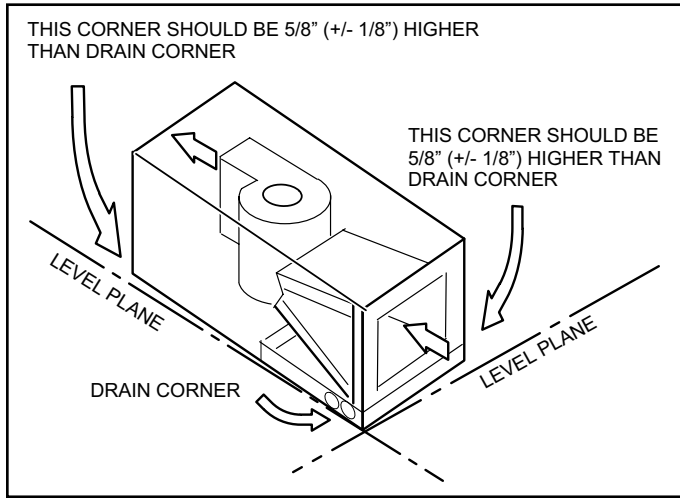

Figure 11. Sloping the Drain
3. Set unit so that it is sloped toward the end of the unit with the drain pan (see figure 11).
Make sure the unit is sloped (similar to the slope shown in figure 11) (horizontal or upflow) so that the drain pan will empty completely without water standing in the pan.